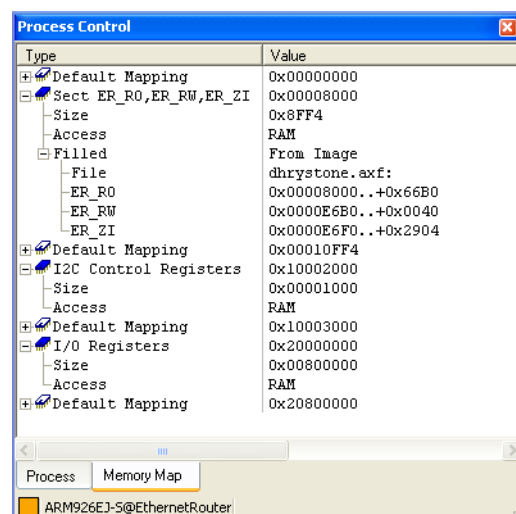

Figure 5-12 Memory map with dhrystone image loaded
5. Expand the Sect ER_R0,ER_RW,ER_ZI block as shown in Figure 5-12 on page 5-18. Details of the loaded image are visible.